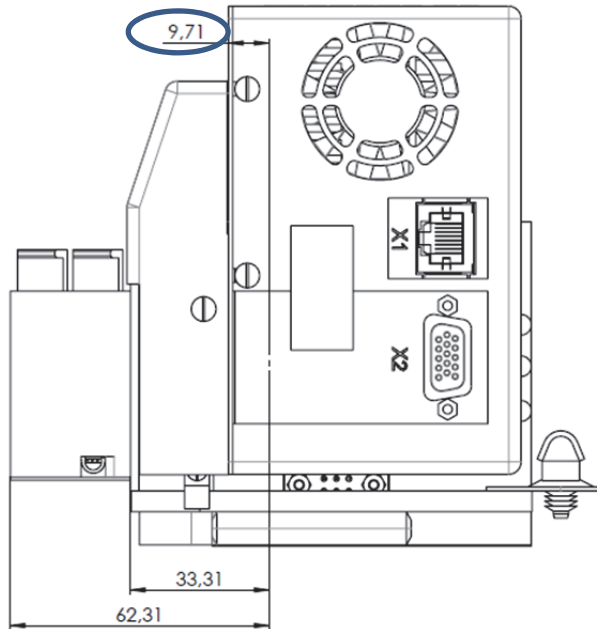
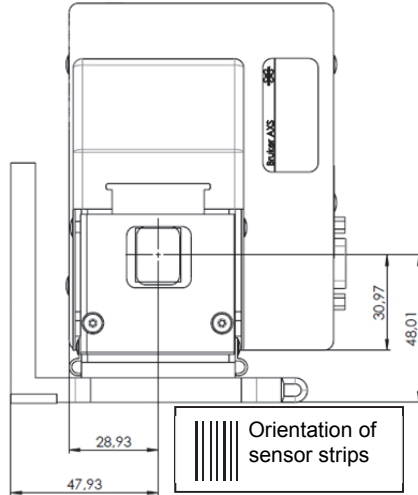

Figure 5.8: Reference for checking the measurement circle radius
Figure 5.9: Detector center and sensor strip orientation
4. Check the correct radius distance for your set up (especially when switching the applications in TWIN/TWIN systems). For active sensor surface and position see Figure 5.8 and Figure 5.9.
To confirm the proper measurement circle radius, measure from a point at the center of the sample stage (goniometer center) to a point approximately 9.7 mm behind the front side of the detector cover (see Figure 5.8). Use this as a reference when placing the detector on the track.